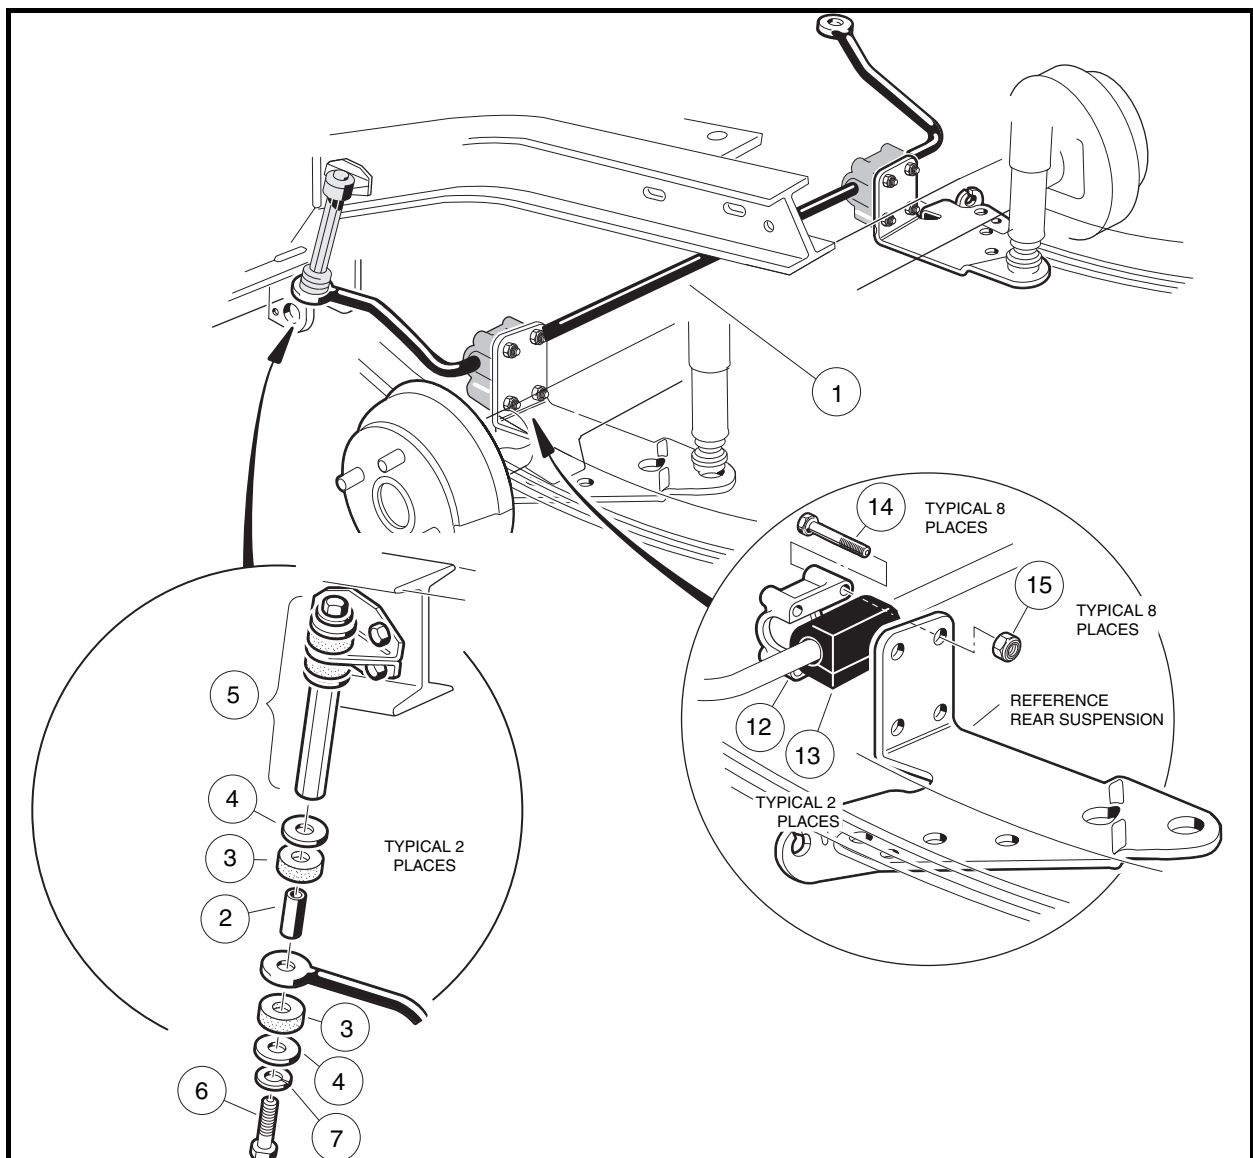

Figure 9-6 Stabilizer Bar
2. Remove bolt (6), lock washer (7), flat washers (4), compression mounts (3), and spacer (2) from left and right stabilizer bar links (5). Do not remove the stabilizer bar links from frame (**Figure 9-6, Page 9-7**).
1. Position stabilizer bar at the transaxle mounting brackets. Install a bushing (13) onto bar, making sure the bushing is located in the center of the four mounting holes in the bracket (**Figure 9-6, Page 9-7**).
2. Place the bushing support (12) onto the bushing. Install four hex-head bolts (14) through the bushing support and transaxle mounting bracket.
3. Install four lock nuts (15) and tighten to 75 in-lb (8.4 N·m).
5. Place lock washer (7), flat washer (4), spacer (2), and compression mount (3) onto bolt (6). Install bolt through mounting hole in stabilizer bar and place another compression mount (3) and flat washer (4) onto bolt (**Figure 9-6, Page 9-7**).
6. Install the bolt (6) with hardware into the stabilizer bar link (5) and finger-tighten.
8. Tighten bolts (6) in the stabilizer bar links (5) to 17 ft-lb (23 N·m).